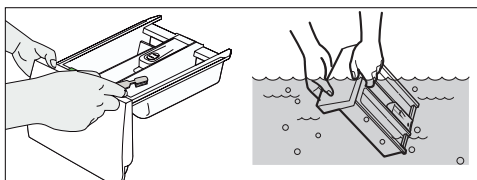
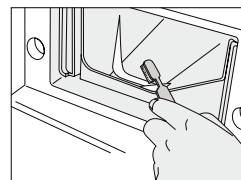

Fig.17
Fig.18
- Clean the drawer recess with a bristle brush. (Fig.17, Fig.18)